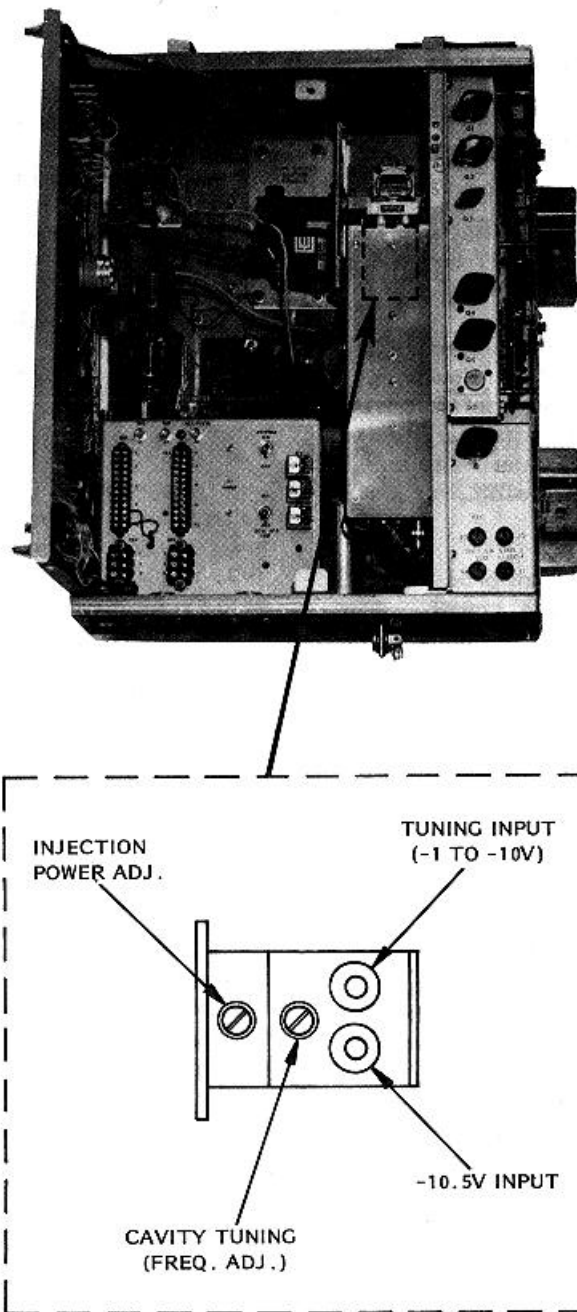

Figure 5-3 Local Oscillator Adjustment Locations
5. Turn local oscillator cavity tuning adjustment (see Figure 5-3) fully CW.
10. Turn local oscillator injection power adjustment control (see Figure 5-3) to obtain 23uA reading on multimeter.